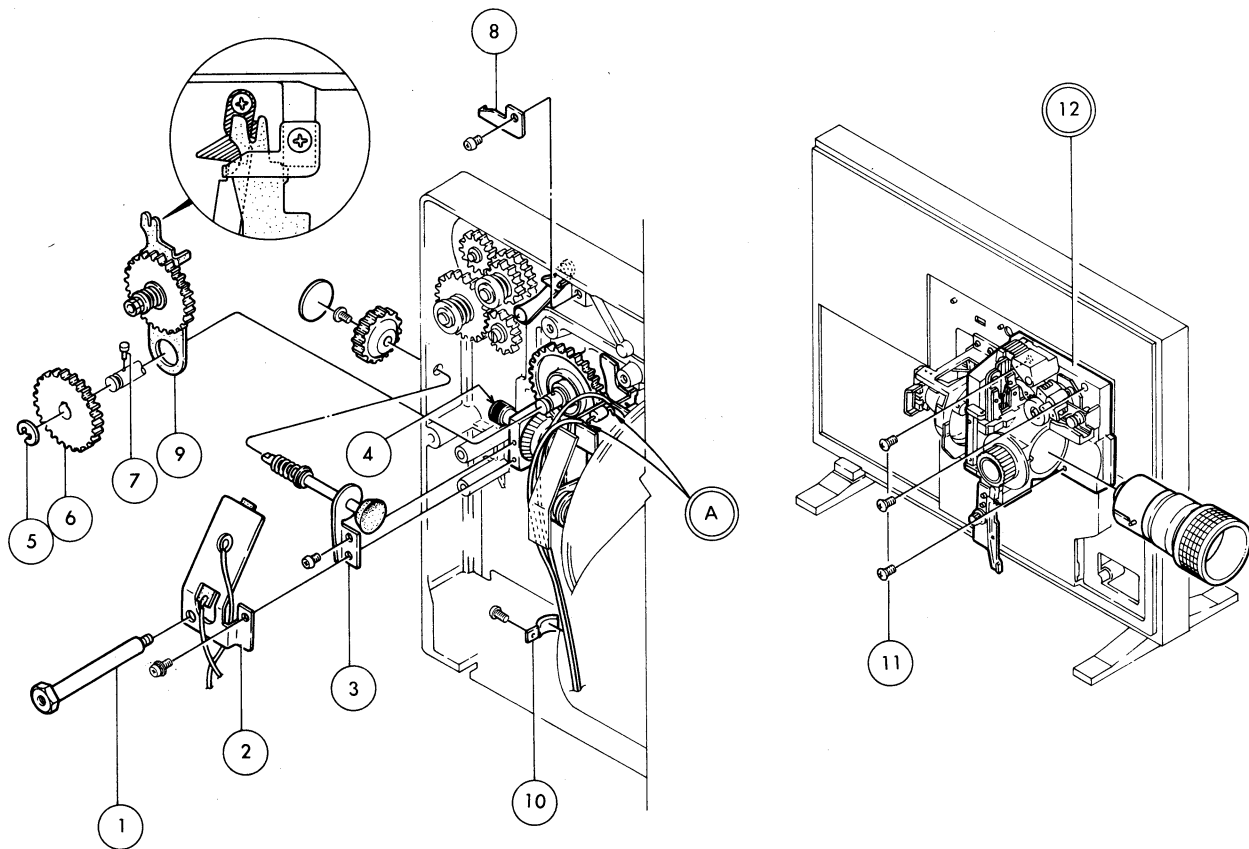

Fig 1
1. Unsolder two wires, Fig.1-(A).